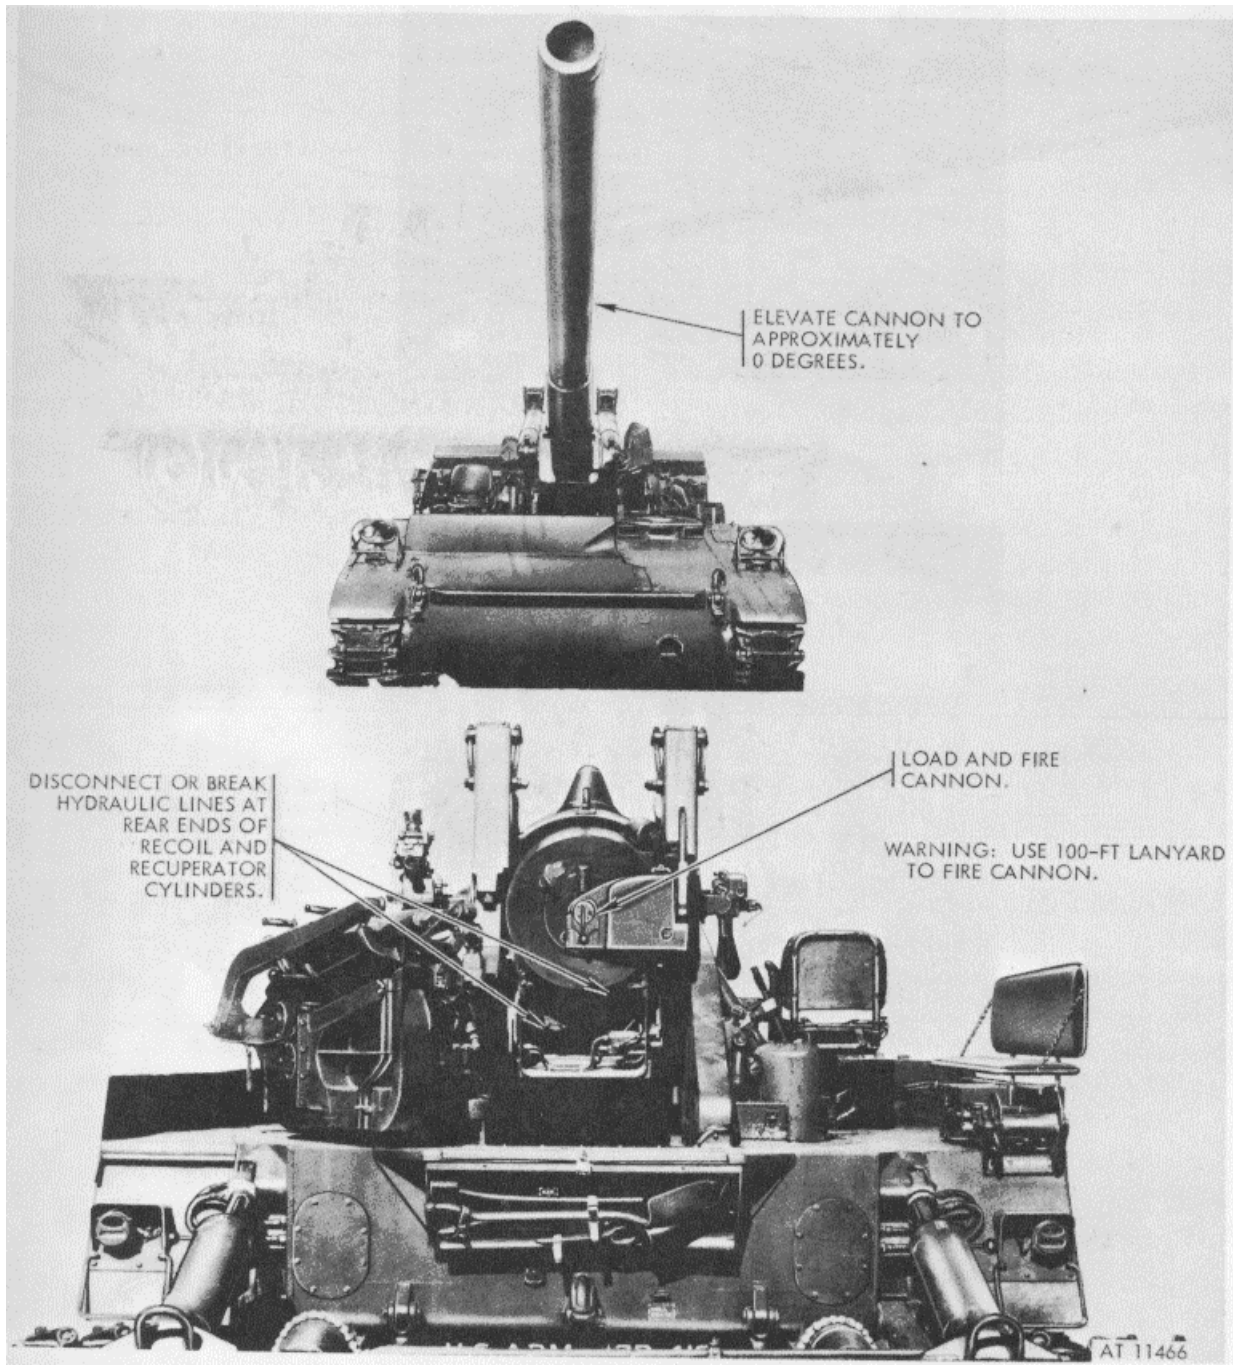

Figure 3-3. Destruction of armament.
(fig. 3-3)
(1) Method No. 1 by demolition with HE ammunition (fig. 3-3). With the howitzer or gun at approximately 0-degree elevation, disconnect or break hydraulic lines at rear end of recoil cylinder and recuperator cylinder, and allow recoil fluid to drain completely. If available nearby, obtain a round of HE or HEAT ammunition (155mm or smaller, a HEAT rocket (3.5 inch or smaller), or an anti-tank rifle grenade, and proceed as follows: (a) Insert ammunition into muzzle end of howitzer or gun to a depth of at least 2 feet. As an alternative, an 8-inch or 175mm HE projectile, jammed in the muzzle of the 8-inch howitzer of 1, 5mm gun respectively, will be satisfactory. Load projectile, propelling charge, and primer into chamber of howitzer or gun.